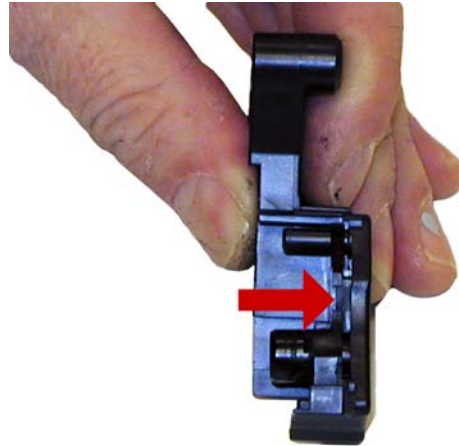

Figure 28
21) Install the left side end cap and screw. Make sure the small contact piece is installed correctly on the end cap. See **Figures 28 & 29**.